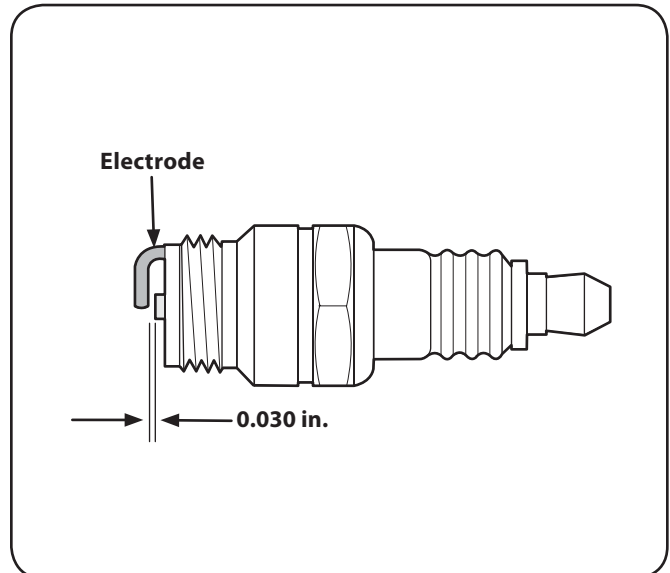

Figure 6-5
3. Measure the plug gap with a feeler gauge. Correct as necessary by bending side electrode. See Fig. 6-5. The gap should be set to 0.030 in.